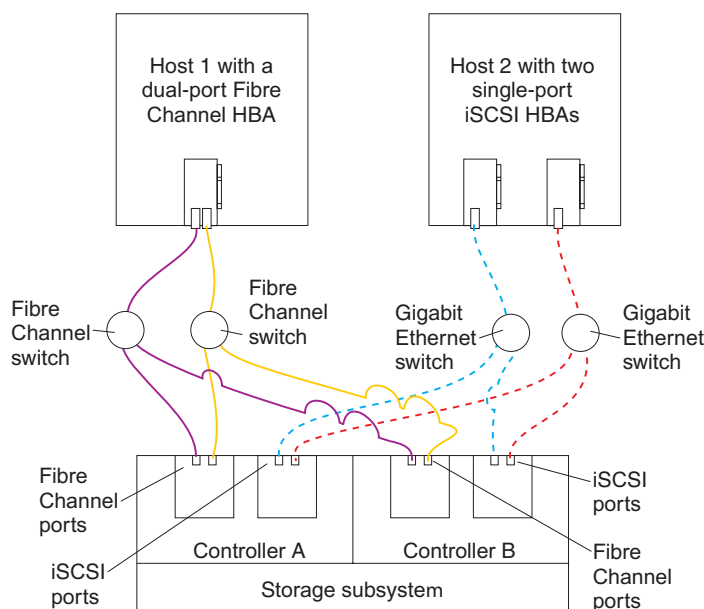

Figure 64. Example of a multiple-host, multiple-port, multiple-switch configuration
- Multiple-host, multiple-port, multiple-switch configuration, as shown in Figure 64 on page 92
Figure 64 on page 92 shows an example of a multiple-host, multiple-port, multiple-switch configuration.